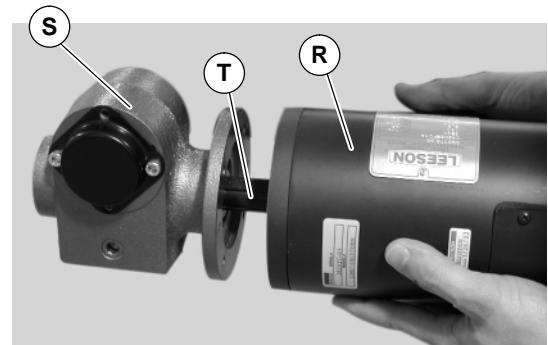

Figure 14
9. With key (T of Figure 14) in keyway, slide motor (R) and gear reducer (S) together.